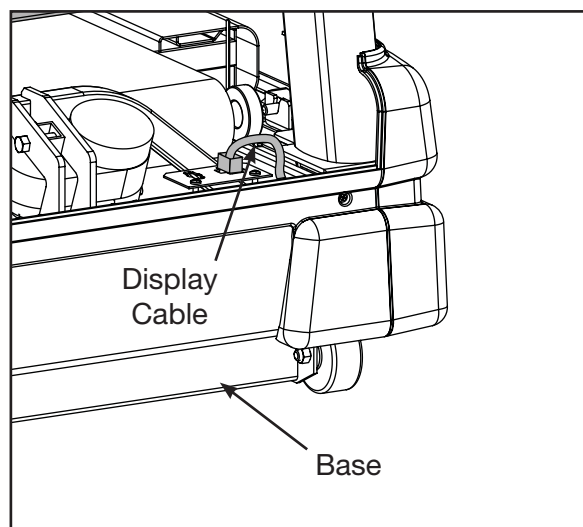

Figure 29
- A. Disconnect the display cable from the connector plate in the base. See Figure 29.
- B. Plug the display cable into the connector plate in the base. See Figure 29.